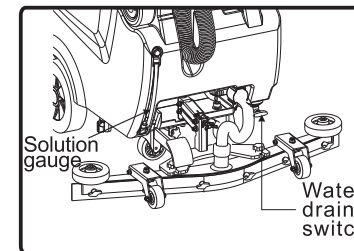

fig. 11 (Back)
- If the machine will not be used for long time or will be stored or in transit under the temperature below 4°C, take out all solution gauge to drain all the solution water in the solution tank, in order to prevent solution from changing state. After this, take out the filter lid, and then press the sprinkling button to drain all the solution stayed in the sprinkling system and clean the filter if necessary. Otherwise, the sprinkling motor, the solenoid valve, or the hoses will be damaged because of frozen water in the sprinkling system (fig. 11&12).